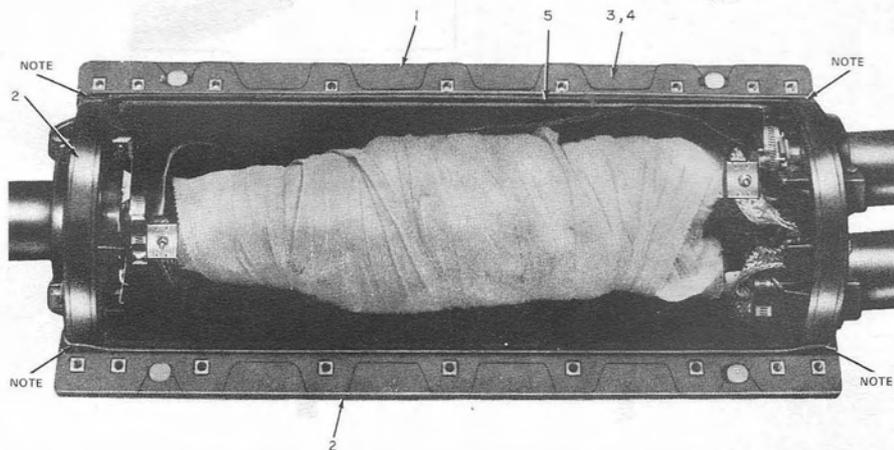

Fig. 42—Placing Cover Halves Using B Sealing Tape and Cord
polyethylene tape (PIC) as outlined in Section 632-490-200. Proceed to Fig. 42 or 43.
6.03 Procedures for installing 2-type cover halves on end plates that **did not** require any tools to maintain proper alignment and spacing of end plates (Standard Method) during splicing are outlined in Fig. 42 or 43.
2. Install back cover as outlined in Fig. 42 or 43.